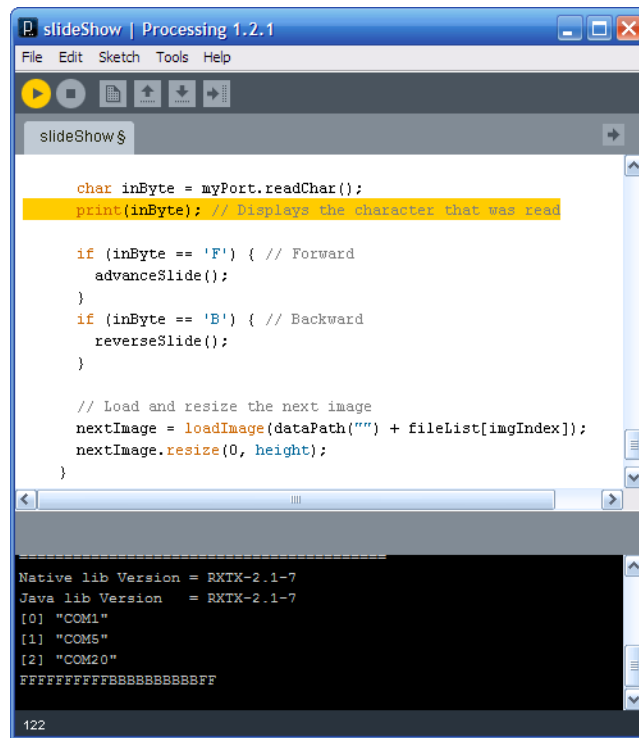

Figure 5-26. Processing displaying the characters it reads from the Arduino over the serial port
- ❻ The `draw()` function is similar to Arduino's `loop()` in that it's called continuously. Because Processing draws graphics and animations, this function is called a certain number of times per second (60) unless you change the frame rate with the `frameRate()` function.
- ❼ This block checks to make sure there is some text to read from the serial port. If so, it reads it and prints it out (see Figure 5-26).